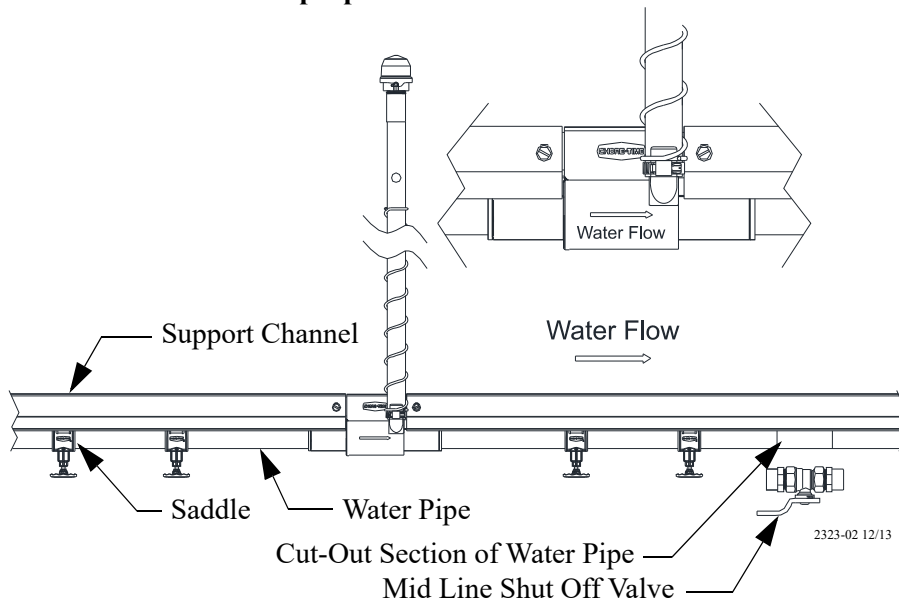

Figure 17. Mid-Line Shut-Off Valve Installation
3. Use PVC pipe cutters to cut a section out of the water pipe, **see figure 17**. The shut-off valve may be used as a template to determine the required size of the cut.